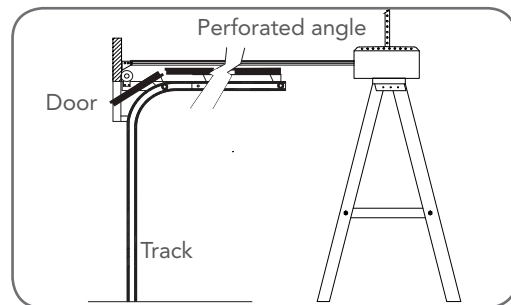

Fig 5.2
- Rest the opener on a support above the top edge of the door to allow for a 25mm gap between the shuttle and the door (Fig. 5.2).